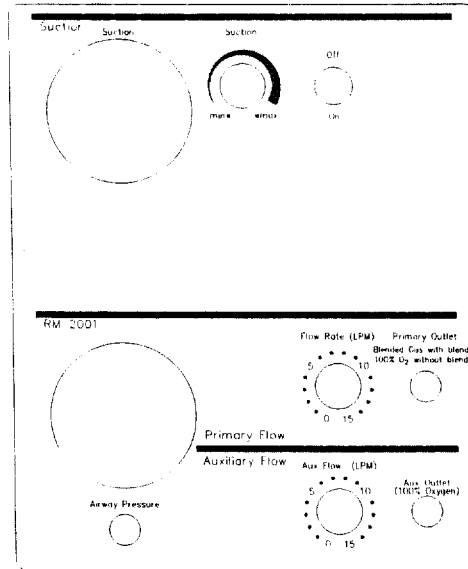

FIGURE 4.13 RESUSCITATION MODULE 2001
3. Attach the Skin Temperature Probe to the infant. The probe should be located on the infant's abdomen, halfway between the xyphoid and the umbilicus (Figure 4.13). The metal side of the probe should be placed in direct contact with the skin (when using the reusable probe).